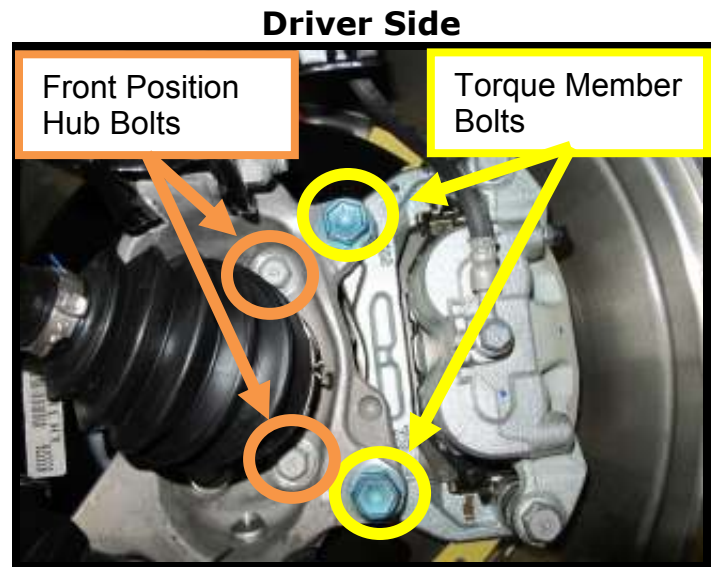

Figure 1
3. On the driver side knuckle, use a torque wrench to torque the following bolts (Figure 1):